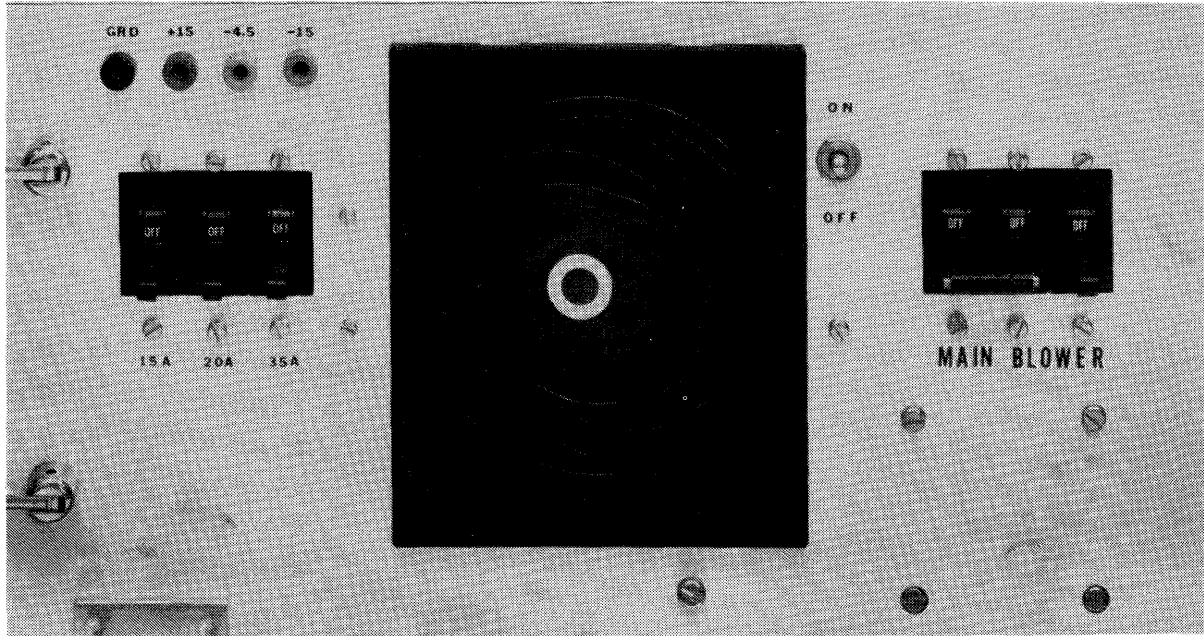

Figure 3-2. Control Unit DC Power Supply Panel
The control unit DC power supply panel, shown in Figure 3-2, is mounted on the front of the power supply which is located at the lower left-hand side of the control unit just above the blower. The controls on this panel are used by the Univac Customer Engineer to apply and monitor primary power to the control unit. Control functions are defined in Table 3-2.
- (1) The following steps are performed at the DC power supply panel, see Figure 3-2.
- (2) The following steps are performed at the DC power supply panel, see Figure 3-2.